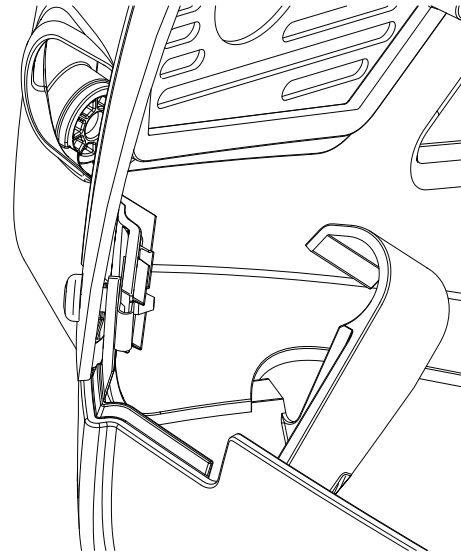

Figure 32
22. Set rear upper cover in place so the two screw holes line up with the rear lower cover and side covers (Figure 32).